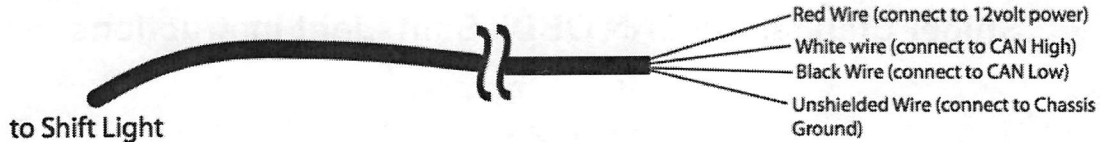

Figure 2
2. Cut off OBDII connector and strip back the insulation to expose the red wire, black wire, white wire, and unshielded wire (see **Figure 2**).